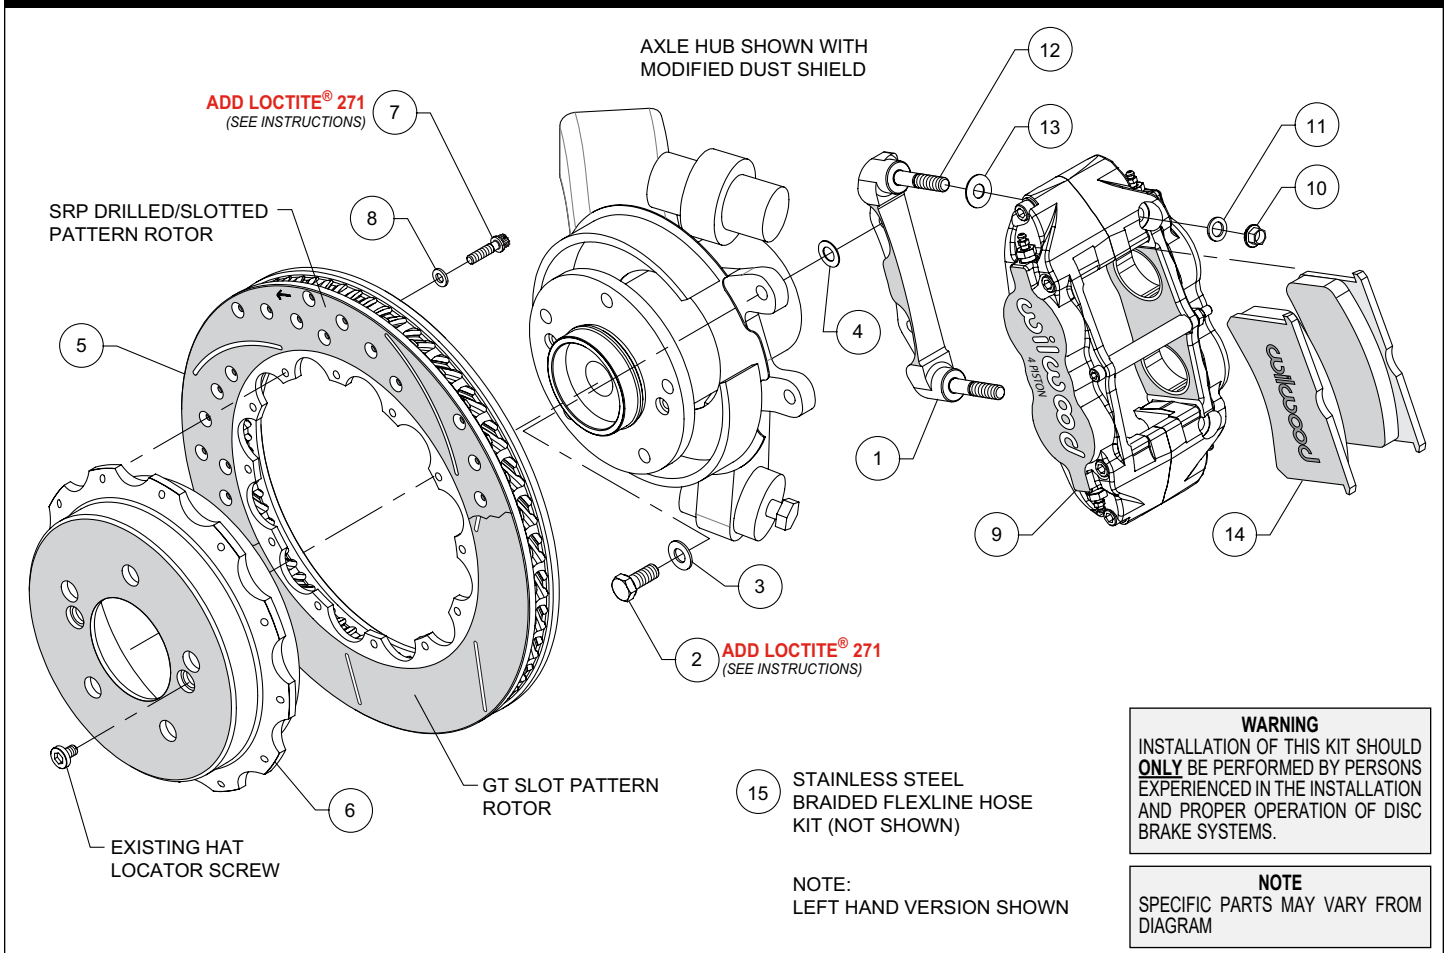
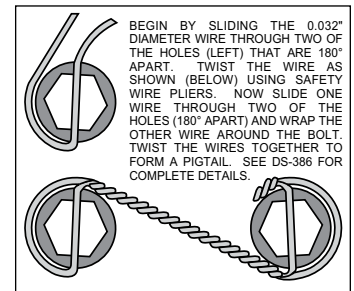

Figure 1. Typical Installation Configuration
Figure 3. Safety Wire Diagram
Assembly Instructions (numbers in parenthesis refer to the parts list and Figure 1 on the preceding pages):
•The caliper mount bracket (1) should initially be installed with clean, dry threads on the mounting bolts. Orient the bracket as shown in Figure 1 and Photo 3, and install using bolts (2) and washers (3). Initially place one .030 thick shim (4) on each bolt between the bracket and upright, Figure 1. Temporarily tighten the mounting bolts. **NOTE:** *The bracket must fit squarely against the mounting points on the upright.* Inspect for interference from casting irregularities, machining ridges, burrs, etc. Later, after the caliper alignment has been checked, the mount bolts will be secured using red *Loctite*® 271.
•Orient the rotor (5) and the hat (6) as shown in Figure 1 and Photo 4. Attach rotor to hat using bolts (7) and washers (8). Apply red *Loctite*® 271 to the bolt threads and torque to 155 **in-lb** using a criss-cross pattern. For an added measure of security, the bolts may be safety wired using standard 0.032 inch diameter stainless steel safety wire as shown in Figure 3. Please refer to Wilwood's data sheet DS-386 (available at www.wilwood.com/Pdf/DataSheets/ds386.pdf) for complete safety wire installation instructions.
•Initially place one .035" thick shim (13) on each stud (12) as shown in Figure 1 and Photo 6. Mount the caliper (9) onto the bracket (1) using lock nuts (10) and washers (11), Figure 1. Temporarily tighten the lock nuts and view the rotor through the top opening of the caliper. The rotor should be centered in the caliper, Photo 7. If not, adjust by adding or subtracting shims (4) between the bracket and the mounting bosses. Always use the same amount of shims on each of the two mounting bolts. Once the caliper alignment is correct, remove the bracket mounting bolts (2) one at a time, apply red *Loctite*® 271 to the threads, and torque to 35 ft-lb.
•Remove the caliper center bridge pad retainer bolt, nut, and tube from the caliper. Insert the brake pads (14) into the caliper, with the friction material facing the rotor, as shown in Photo 8. Check that the top of the brake pad is flush with the outside diameter of the rotor, Photo 9. If not, adjust by adding or subtracting shims